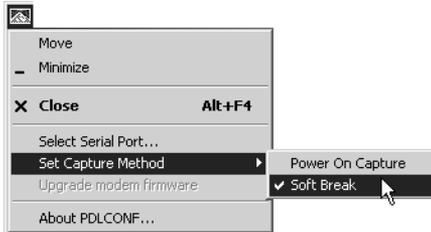

Figure 2-27. Set Capture Method->Soft Break
8. From the pop-up menu, click **Set Capture Method** ->**Soft Break** (Figure 2-27 on page 2-31).